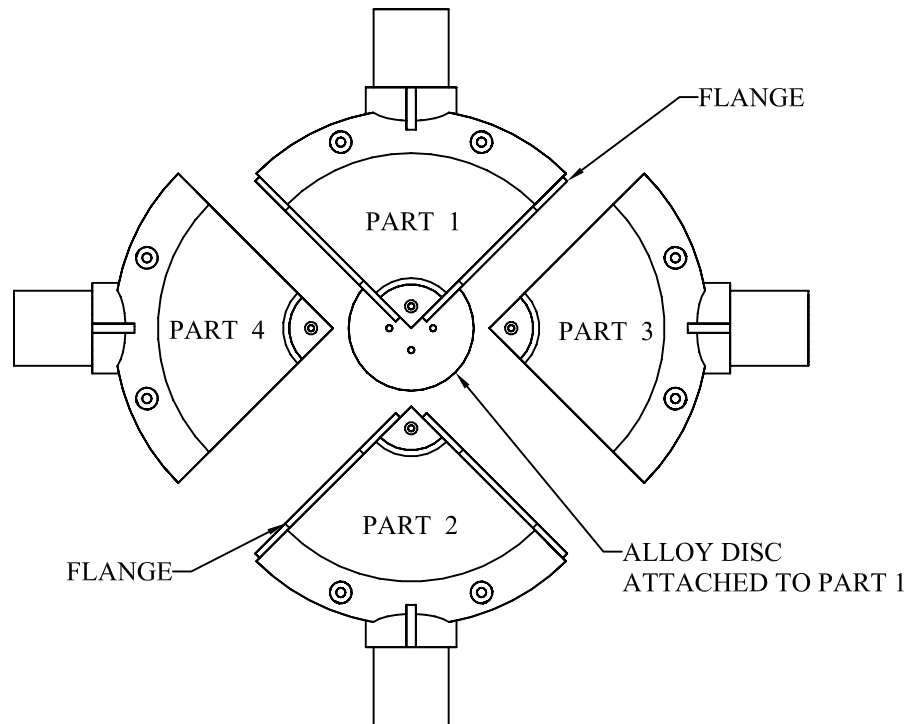

FIGURE 1
3. THE BASE COVER IS SPLIT INTO 4 PARTS AS FOLLOWS (SEE FIGURE 1).